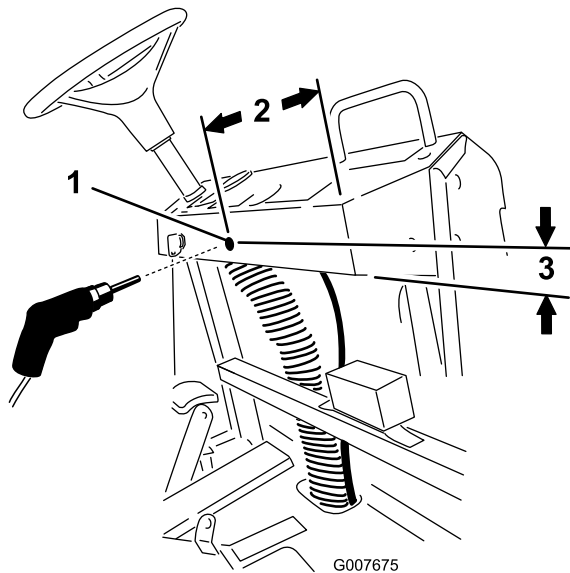

Figure 18
- A. Make a mark inward from the right side of the dashboard 10 inches and then 1-1/2 inches from the bottom of the dashboard (Figure 18).